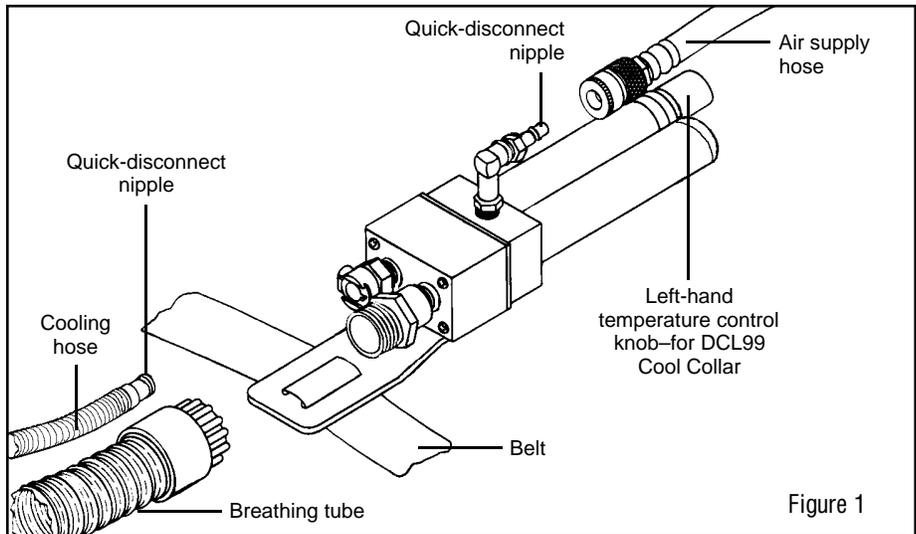

Figure 1
6. Screw the nylon hose connector on the end of the breathing tube onto the threaded connector on the DC99 (Figure 1). Tighten firmly.
7. Snap the quick-disconnect nipple found on the end of the CH99 cooling hose into the quick-disconnect coupler on the DC99 (Figure 1). Screw the other end of the tube onto the hose connector on the back of the Cool Collar air delivery system.
8. Lace the belt through the slots in the belt bracket (Figure 1).